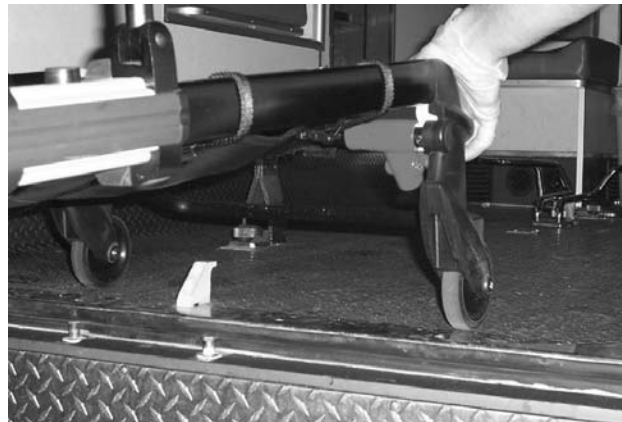

Figure 27 - Disengaging the Safety Bar
5. Operator 2 - Push the safety bar release lever forward to disengage the safety bar from the safety hook in the patient compartment (Figure 27).